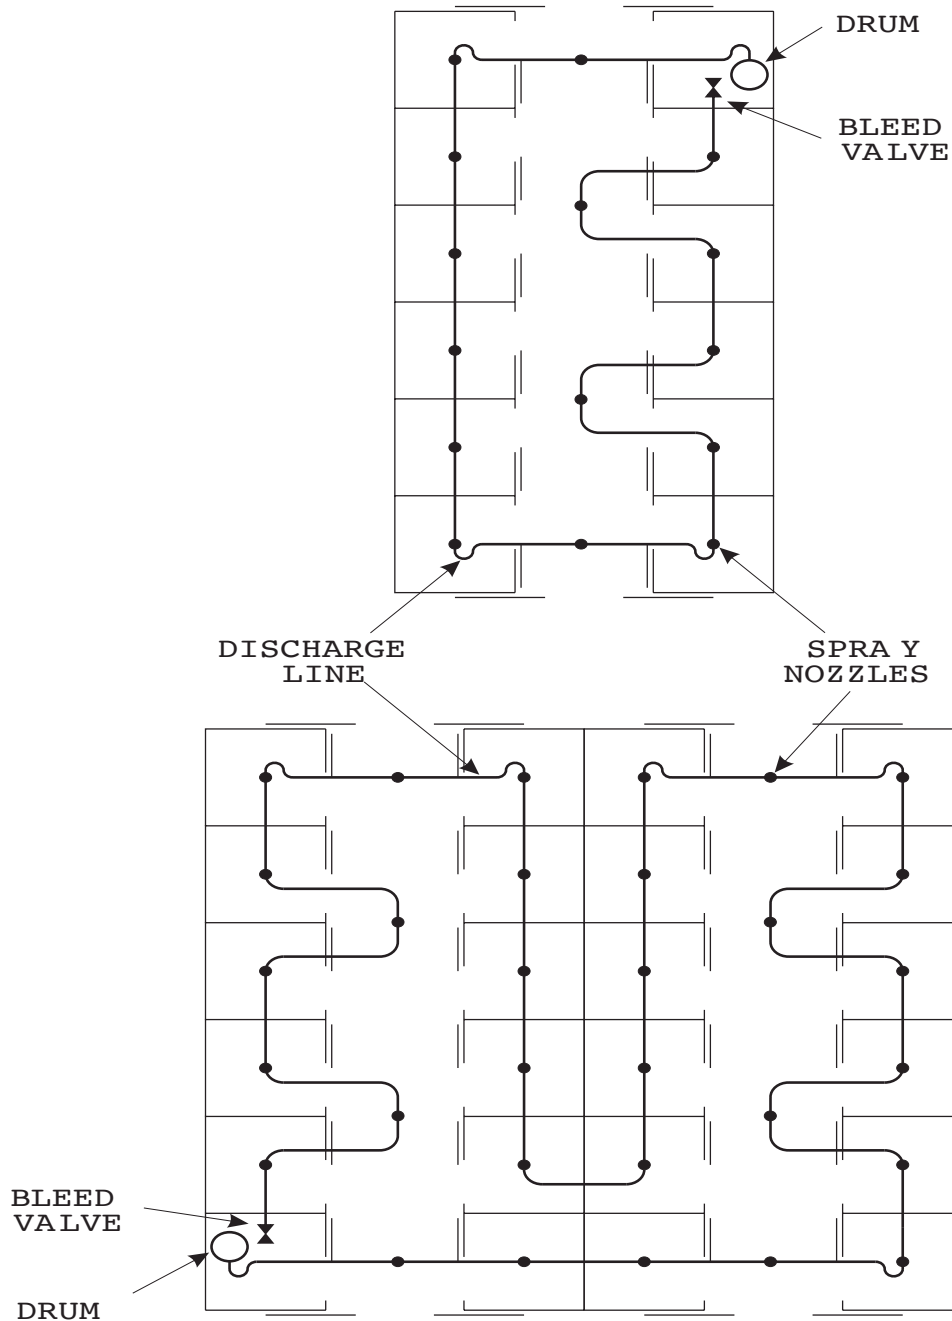

Figure 4 – Sample Barn Diagrams
13. Remove the spray nozzles from package. Using the barn diagrams as a guide (figure 4), run the  $\frac{1}{4}$  inch nylon tubing on the ground around the stall area to be treated, beginning at the tank.